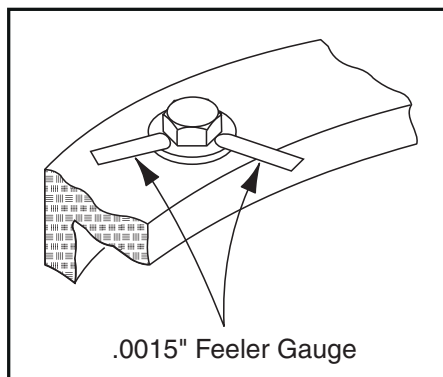

Figure 3-27. Swing Bearing Bolt Feeler Gauge Check
- b. At the positions indicated on Figure 3-27. try and insert the 0.0015" feeler gauge between the bolt head and hardened washer at the arrow indicated position.
- d. At the position indicated on Figure 3-27. try and insert the 0.0015" feeler gauge between the bolt head and hardened washer at the arrow indicated position.